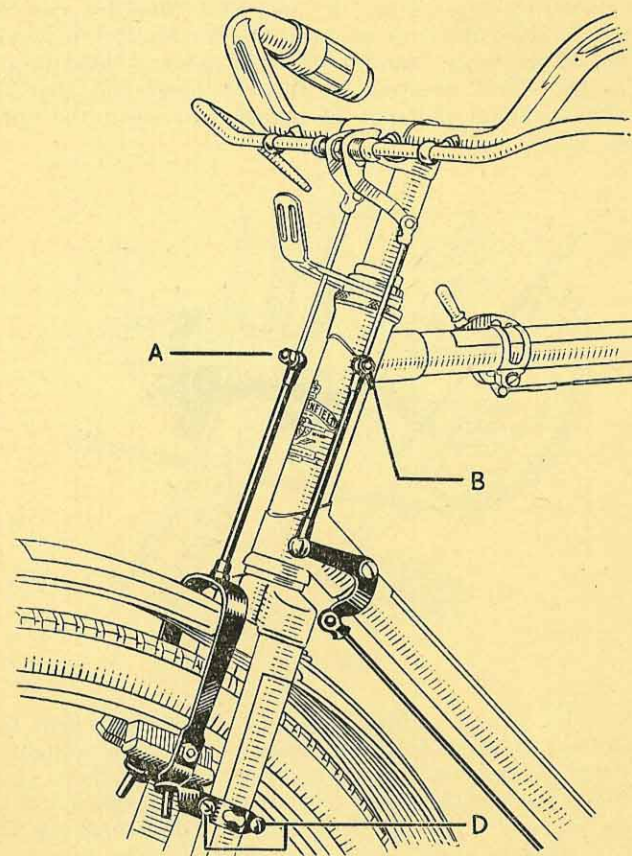
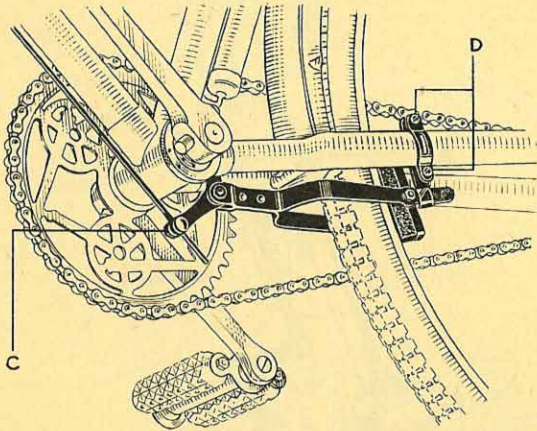

FIG. 4
FIG. 5
- 8 **Brakes.** Rod operated brakes are adjusted by loosening the nuts A, B and C on the pinch bolts (see Figs. 4 and 5) then pulling the brake stirrup until the brake blocks are as close as possible to the rim without causing it to bind, at the same time pushing down on the brake lever and tightening the pinch bolt. In the case of the rear brake note that two points of adjustment are provided, one in front of the steering head B (Fig. 4) and the other beneath the bottom bracket C (Fig. 5). Adjustment of the brake to take up wear of the blocks, or after movement of the rear wheel to tension of the
A (Fig. 4). If the brake blocks are much worn or the rear wheel has been moved a considerable distance for chain adjustment it may be necessary to loosen the screws D (Figs. 4 and 5) and slide the clips carrying the brake guides up or down the fork blades (or chain stays) to ensure that the brake blocks will clear the rim in the "off" position on the one hand and that the guides cannot pull out of engagement when the brake is "on."